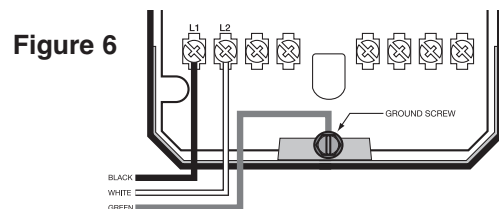

Figure 6
STEP 8 Ensure incoming voltage ground wire is connected to ground screw (Figure 6). **IMPORTANT:** If the control is not properly grounded to the boiler, the HydroStat will not detect water and will remain in a low water condition. If this occurs, attach a second ground wire from the green ground screw to the boiler of the control.